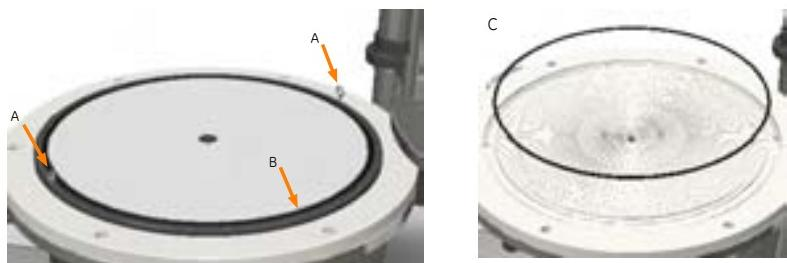

Figure 5.30: **A:** Lifting the bed support with the eye bolts, **B:** O-ring on the bed support, **C:** Removing the o-ring from the distributor plate
- 4 Unscrew the nuts underneath the bottom backing plate so that the bottom bed support can be lifted. Screw the 2 eye bolts (see Figure 5.30 A) delivered with the column into the holes and use them to lift the bed support.
- 5 Remove the large o-ring from the outer edge of the bed support. Clean the o-ring with 20% ethanol or replace it with a new o-ring if necessary (see Figure 5.30 B).
- 7 Remove the o-ring from the distributor plate. Clean the o-ring with 20% ethanol or replace it with a new o-ring if necessary (see Figure 5.30 C).
- 1 Refit the o-ring on the distributor plate (see Figure 5.30 C).
- 2 Refit the o-ring on the bed support (see Figure 5.30 B).